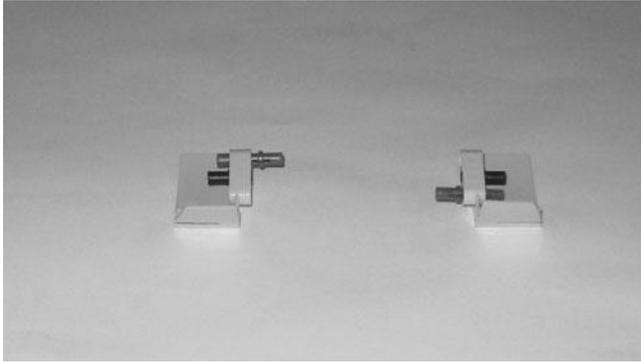

Figure 11.8
Step 1: Place the left and right screens upside down on a flat surface and connect a connector peg with friction and a connector peg with friction 3M to each screen, as shown in Figure 11.8.